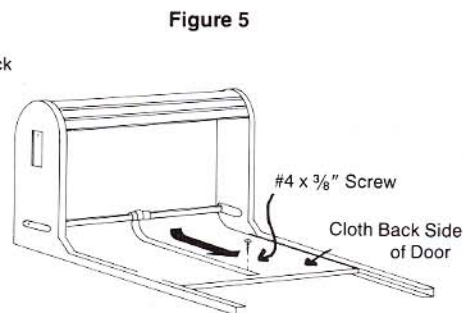

Figure 5
Step #9—Insert tambour door into plastic tracks and lay face down. With door half open pull spring down to bottom of door and fasten to door with one (1) #4 x 3/8" screw predrilled hole on the back-side of door. (See Figure 5)